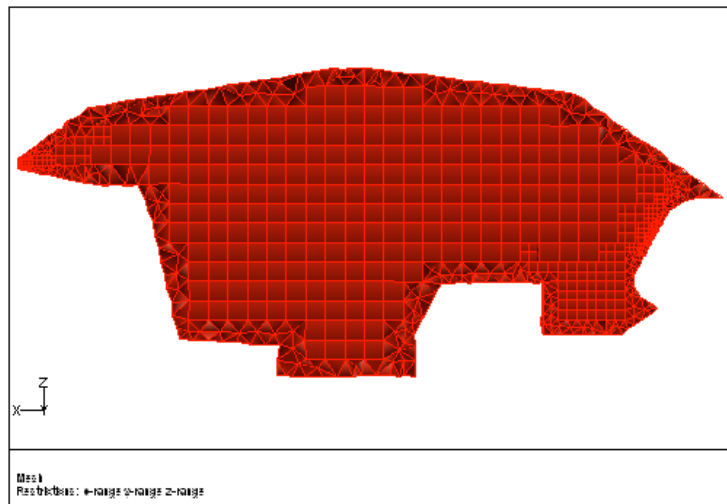

Figure 5.7: Slide of Cells at $y = 50$ for the Hexcore Mesh With Buffer Layers = 1
- (d) Display a slide of cells at $y = 50$ and $y = -525$ (Figures 5.7 and 5.8).